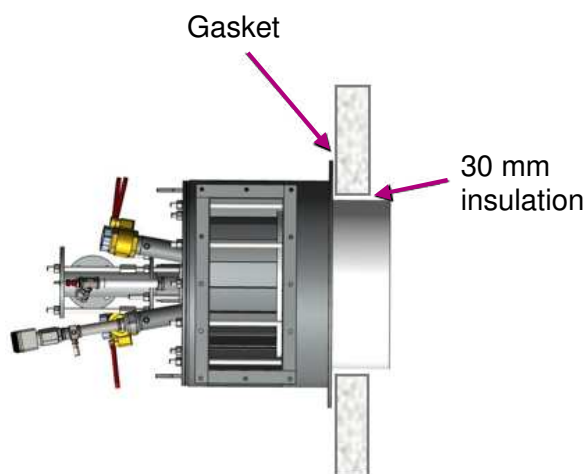

Figure 3.3 – Burner installation on heater
- The opening in the heater wall shall be 60mm larger in diameter compared to the burner. This allows installing 30mm fibre lining between the burner's combustor and the heater wall. (Figure 3.3)